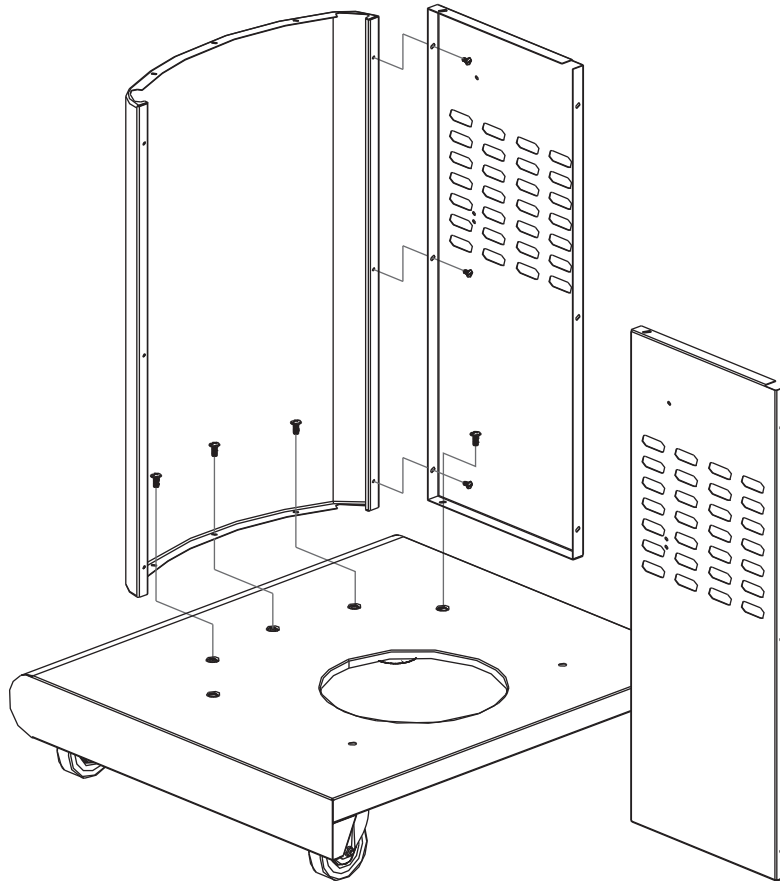

Fig. 2
1. Turn bottom shelf right side up as shown in **Fig. 2**.
2. Attach front panel with the correct direction marked "UP" to front of bottom shelf with three (3) M5 x 10 screws as shown in **Fig. 2**.
3. Attach left panel (marked "L") to front panel with three (3) M4 x 10 screws as shown in **Fig. 2**. Attach left panel to bottom shelf with one (1) M5 x 10 screw as shown in **Fig. 2**.
4. Attach right panel (marked "R") to front panel with three (3) M4 x 10 screws. Attach right panel to bottom shelf with one (1) M5 x 10 screw as shown in **Fig. 2**.